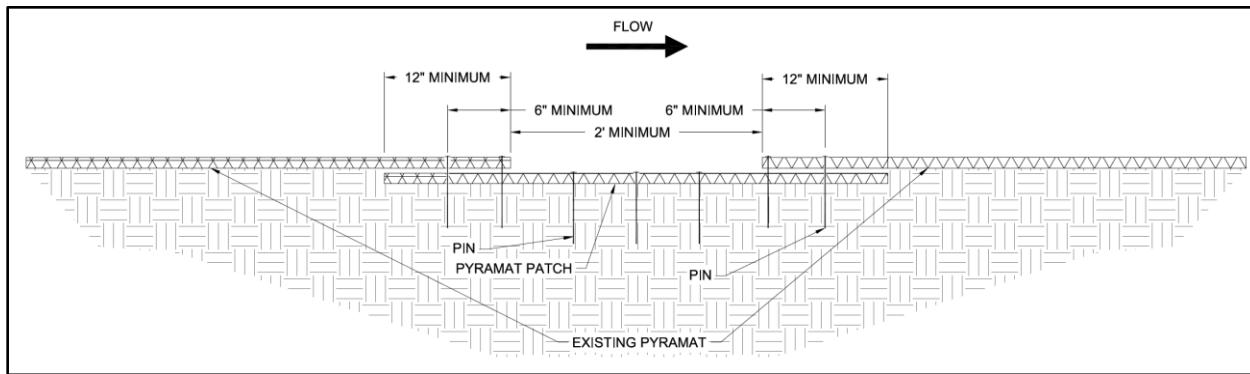
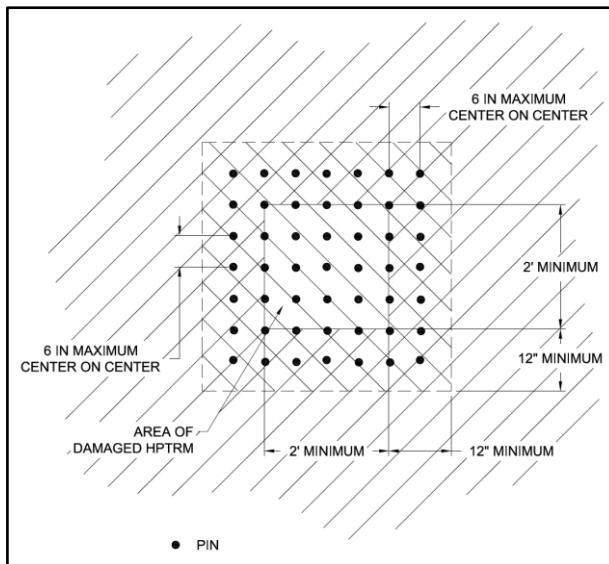

Figure 14: PYRAMAT Patch Cross Section
Figure 15: PYRAMAT Patch Plan View
- A. *Acceptable* (A) - The rated area is in satisfactory, acceptable condition, and will function as designed and intended during the rain event. PYRAMAT has no exposed edges, is installed tightly by maintaining direct contact to the slope surface with no rilling beneath, and has over 90% vegetation cover. There is no noticeable damage present.
- B. *Minimally Acceptable* (M) - The rated area has a minor deficiency that needs to be corrected. The minor deficiency will not seriously impair the functioning of the area during the next rain event; however, the overall reliability of the project will be lowered because of the minor deficiency. PYRAMAT has 75% vegetation cover with un-vegetated patches as large as one square yard. Edges of PYRAMAT are exposed with noticeable damage. Minimal erosion has occurred underneath PYRAMAT.
- C. *Unacceptable* (U) - The rated area is unsatisfactory. The deficiency is so serious that the area will not adequately function in the next rain event. PYRAMAT has been physically torn, ripped, or lifted from the slope surface. Less than 75% vegetation cover is present with un-vegetated patches being greater than 1 square yard, and there is evidence that erosion is occurring beneath PYRAMAT.
3. To repair PYRAMAT, cut out and remove damaged areas in a square configuration a minimum size of 2 ft by 2 ft. Remove all vegetation and debris atop of PYRAMAT. Loosen the top 1 to 2 in of soil in the patch area then seed. The subgrade of area to be patched shall be prepared to be smooth and uniform and transition smoothly into the in-situ area. Cut a square PYRAMAT patch a minimum of 12 in greater than the damaged area for all four sides of the patch. Overlap the patch area in all directions a minimum of 12 in. The patch overlaps shall be tucked under the existing damaged PYRAMAT material (Figure 14 and Figure 15)